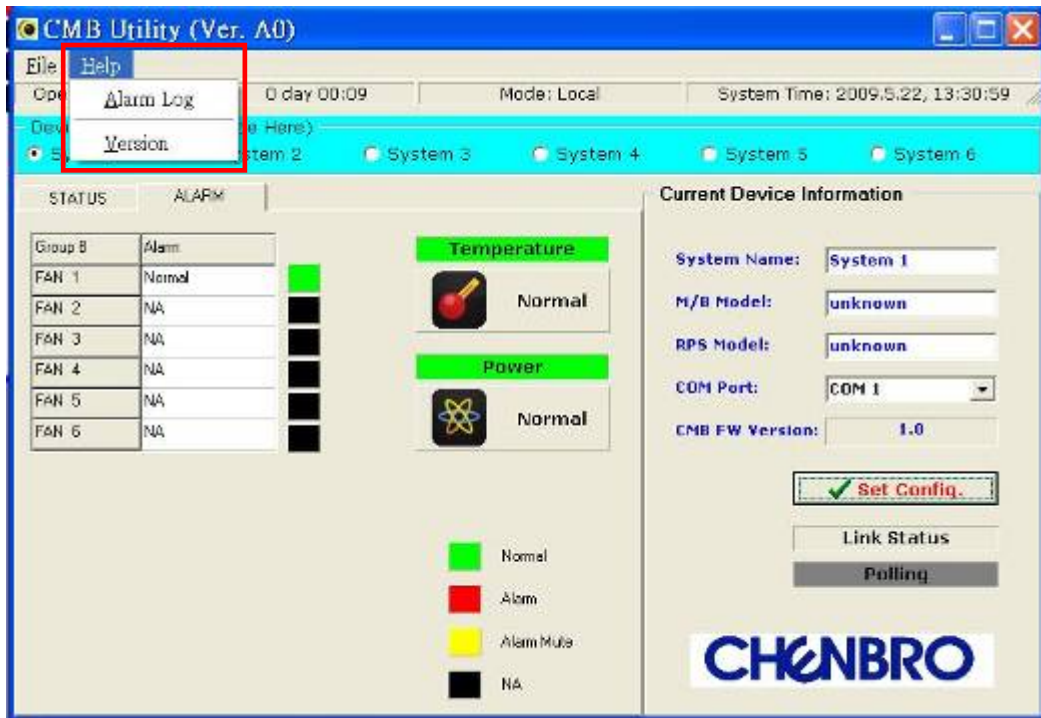

Figure-13
- Alarm Log File: Open the event log file (see Figure-13) to read detail alarm information (see Figure-14).